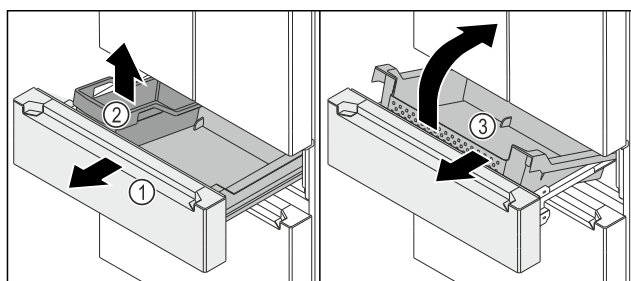

Fig. 148
- Pull out the pull-out cart Fig. 148 (1) as far as it will go.
- Remove the FlexBox Fig. 148 (2).
- Lift up the container Fig. 148 (3) at the front.
- Remove the container Fig. 148 (3) diagonally from the front.